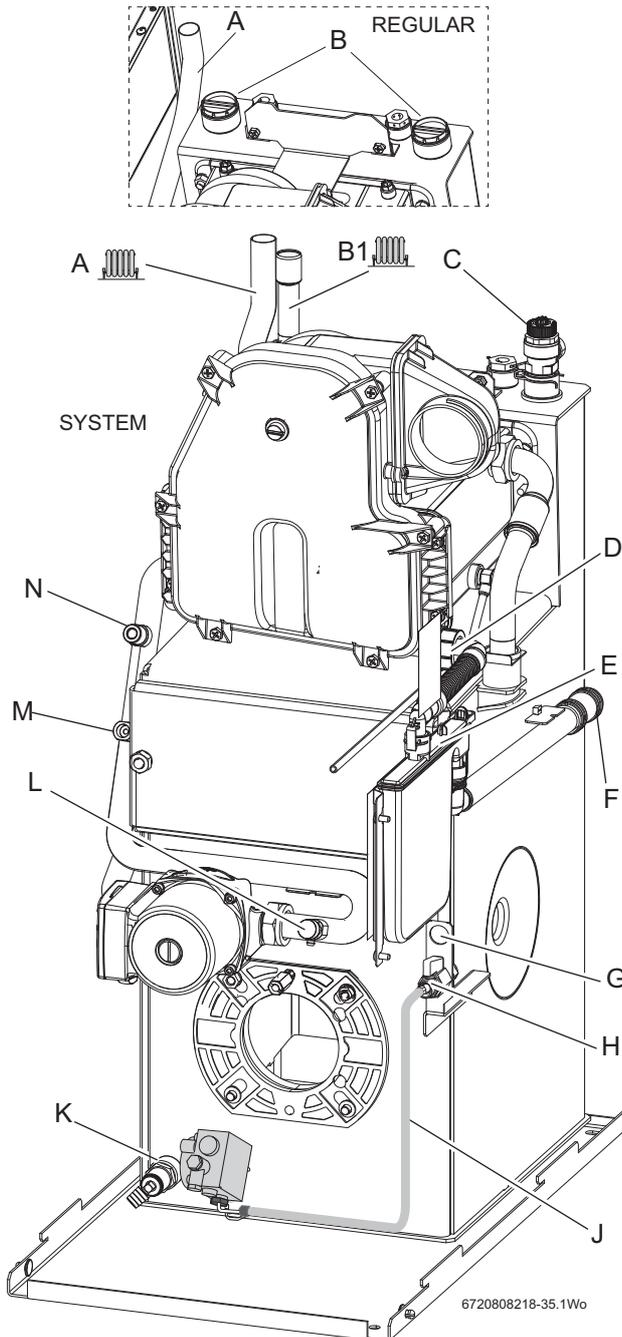

Fig. 40 Pipework connections
- ▶ Refer to figure 40 and ensure that the isolating valve (H) is closed and route the oil supply pipe along the right side of the boiler and connect to the isolating valve (H).
1. Check the inlet pipe connection (1).
- ▶ Unscrew return plug (2).
- ▶ Screw in by-pass screw (3) which is attached to the oil pump.
2. Connect the flexible oil pipe return hose (not supplied) to the oil pump and return pipe fixing and tighten to secure (for routing see figure 40).